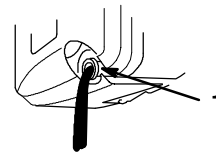

Figure 24
5. Tip the lawn mower onto its **left** side (air filter up), allowing the oil to drain into the drain pan (Fig. 24).